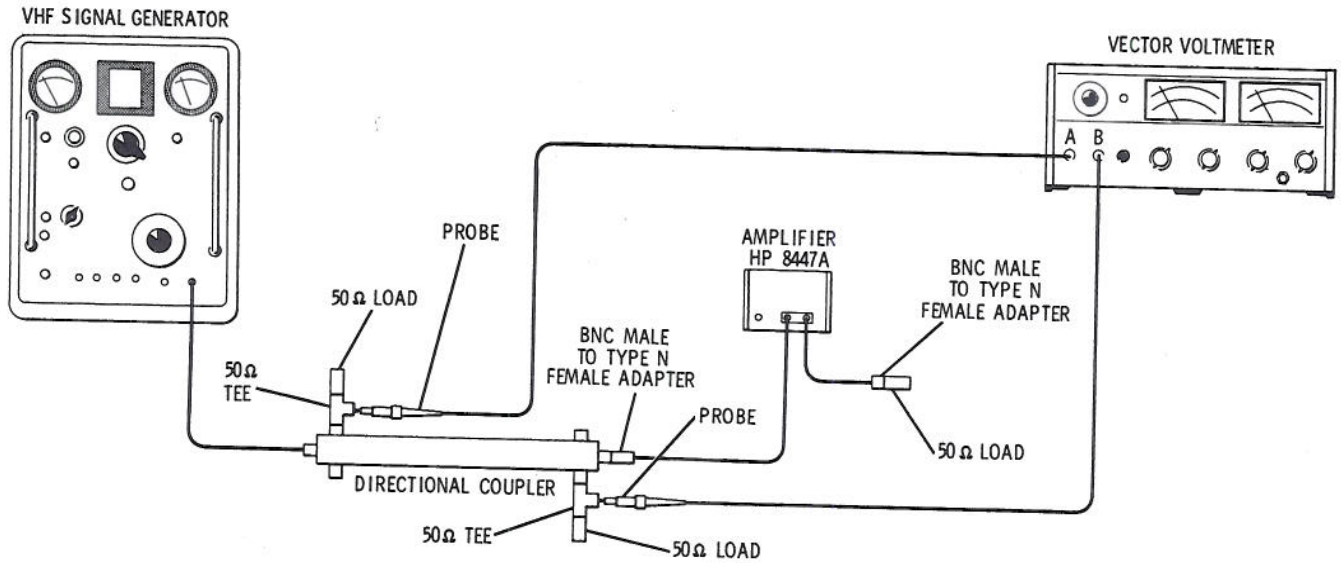

Figure 4-5. Impedance Check Test Setup, 100 MHz to 400 MHz
8. Connect the equipment as shown in Figure 4-5. Make the following controls settings: